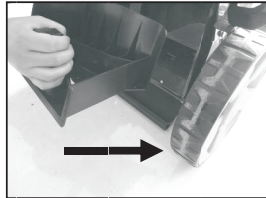
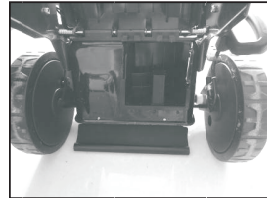

Fig.9B
Fig.9C
2. Push the mulching wedge into the deck. Making sure it is securely in place (Fig. 9B/Fig. 9C)